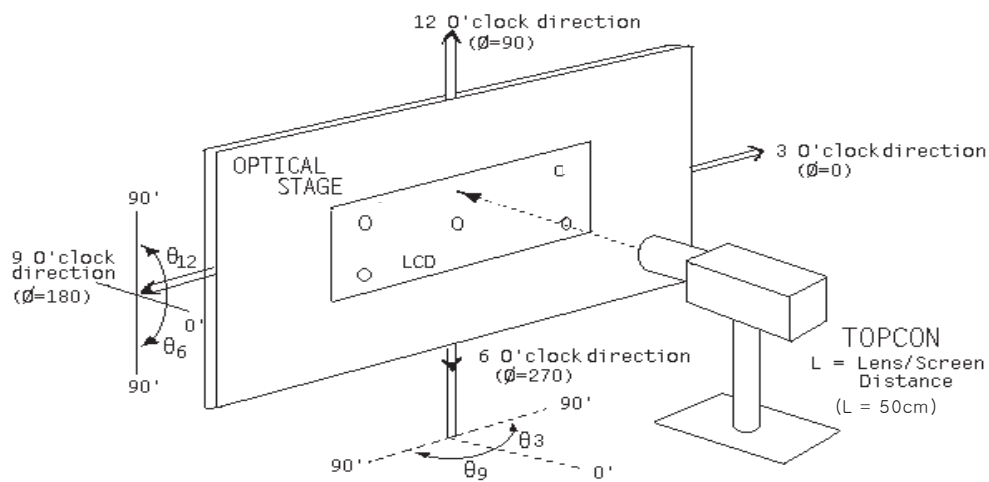

Figure 6. Measurement Set Up
3. Surface luminance is the center point across the LCD surface 50cm from the surface with all pixels displaying white. This measurement shall be taken at the locations shown in FIG. 6.
4. Uniformity measurement shall be taken at the locations shown in FIG. 6&7, for a total of the measurements per display, measure surface luminance of these nine points across the LCD surface 50cm from the surface with all pixels displaying white.